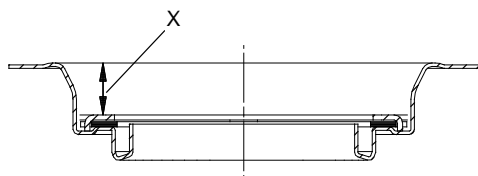

Fig. 10 Measure distance between retainer and top of cup
1. Place neck ring (pos. 45) in cup (pos. 46).
2. Fit neck ring retainer (pos. 65) with the four driving dogs pointing downwards. Turn the neck ring retainer until it engages with the neck ring.
3. Knock/press the neck ring retainer home against the cup using the punch for complete neck ring. Check that the measurement is within the tolerance range. See fig.10.